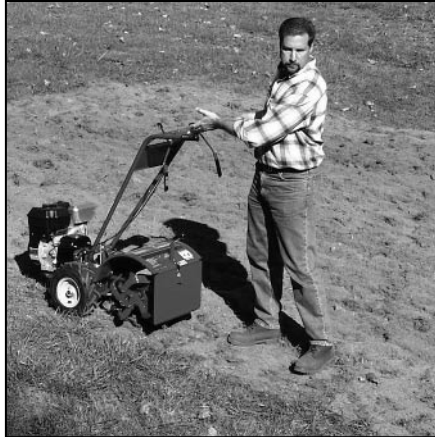

Figure 4-3: Raise tines off ground and look behind when moving in reverse.
- (b) Stop all forward motion before reversing. Lift the handlebars with one hand until the tines are off the ground and then pull the Reverse Clutch Control knob out to engage reverse motion (see Figure 4-3). To stop reverse motion, let go of the Reverse Clutch Control knob.